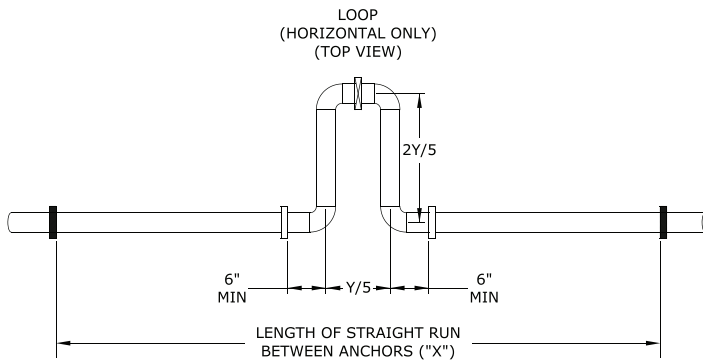
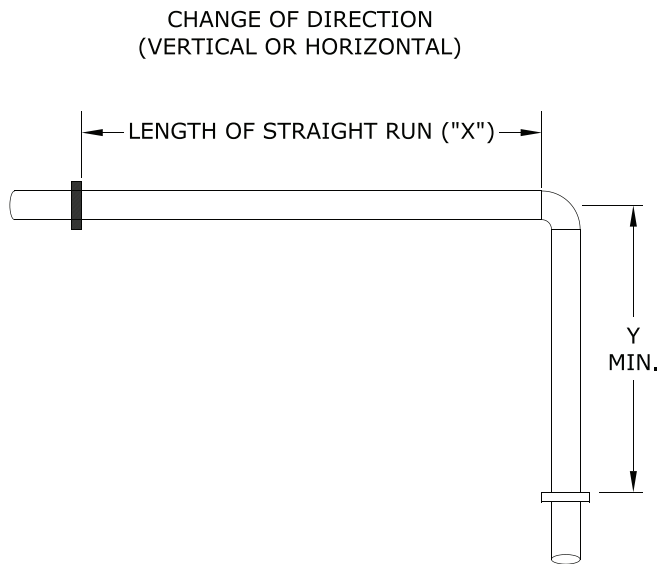

Figure 7.3a
Figure 7.3c
- For CPVC/PVC pipe design, the vent system shall allow 3/8" of thermal expansion for every 10ft of CPVC/PVC pipe. The boiler will always act as an anchor to one end of the vent system. If at all possible, select and install hangers and wall thimbles so that the vent system can expand towards the terminal. When a straight run of pipe exceeds 20ft and must be restrained at both ends, an offset or expansion loop must be provided (Figures 7.3a, 7.3b). When a straight horizontal run of pipe exceeds 20ft and is restrained at one end with an elbow at the other, avoid putting a hanger or guide less than "Y" inches from the elbow in the adjoining straight section (Figure 7.3c). Thermal expansion fittings are not permitted.